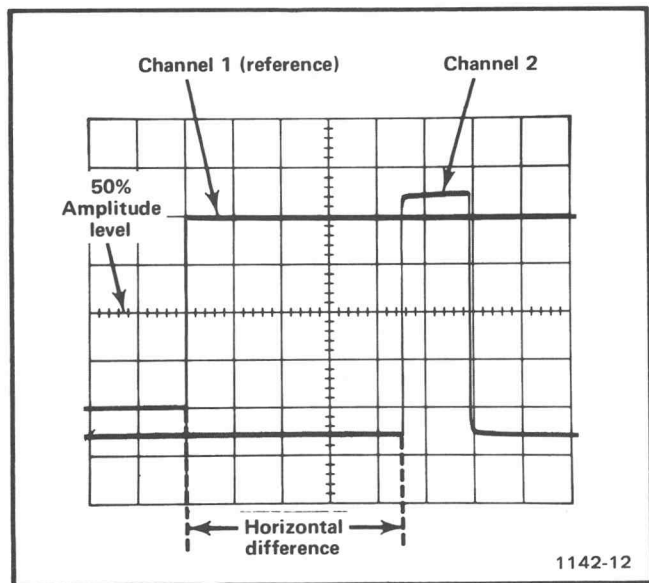

Fig. 5. Measuring time difference between two pulses.
11. Measure the horizontal difference between the Channel 1 waveform and the Channel 2 waveform (see Fig. 5).
**Example.** Assume that the TIME/DIV switch is set to  $50 \mu\text{s}$  and the horizontal difference between waveforms is 4.5 divisions (see Fig. 5).